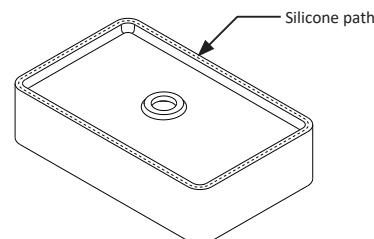

Figure 6.
6. Once plumbing and trap are in position, place waste through the basin. With seals in place, hand-tighten lock-nut/adapter to secure waste in basin. See figure 6.